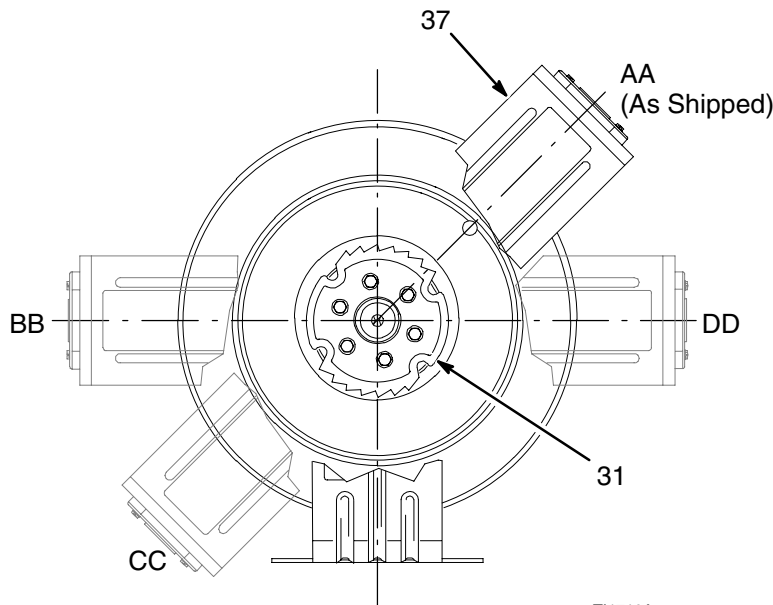

Fig. 4
- The hose reel is factory-assembled and shipped with the roller support arm (37) in position AA. If position AA, BB, CC, or DD is desired, continue with step 3. See Fig. 4.